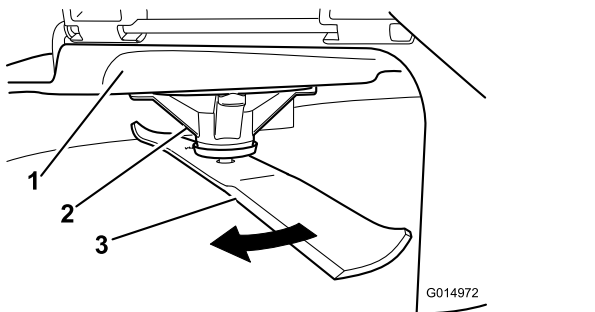

Figure 45
2. While wearing thickly padded gloves or other adequate hand protection slowly rotate blade to be measured into a position that allows effective measurement of the distance between the cutting edge and the level surface the machine is on (Figure 45).